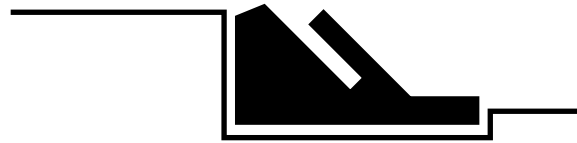

Fig. B23-9 - Gasket in correct position
13. Replace the gasket on the inner surface of the cover for the heat exchanger. The gasket should sit in its slot as shown in Fig. B23-9.